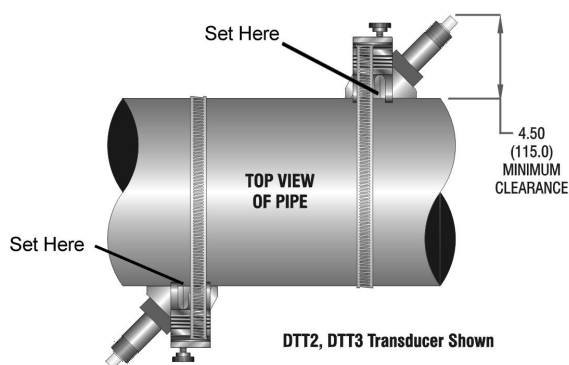

Figure 2.8 Z-Mount Alignment
1. Install the first mounting saddle on the pipe, with the alignment groove placed over one of the marks created in the previous section. The stainless steel clamping band will be located towards the "inside" and the thumbscrew will be mounted towards the outside. See Figure 2.8.
3. Place the first transducer in between the saddle and pipe near the zero point on the mounting rail scale. Slide the transducer clamp over the transducer. Adjust the clamp/transducer such that the line on the transducer aligns with the mark on the pipe. See Figure 2.8.
5. Mount the second saddle in the same manner as the first, but at the second mark on the pipe. Slide the transducer clamp over the transducer and secure with the thumb screw. Refer to Figure 2.8 for proper orientation.